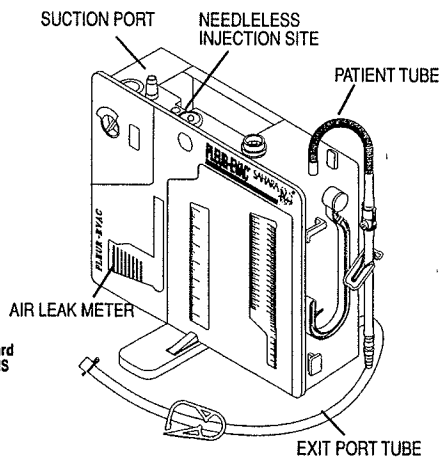

FIGURE 1
Connect the patient tube, which is the long tube from the collection chamber, to the patient's thoracic catheter. One way seal is now established for patient protection (Figure 1).
- Attach the exposed tip into the Needleless Injection Site on the top of the unit (Figure 1)
- Fill to the "fill" line (Figure 1)
Connect the suction source to the suction port (Figure 1).